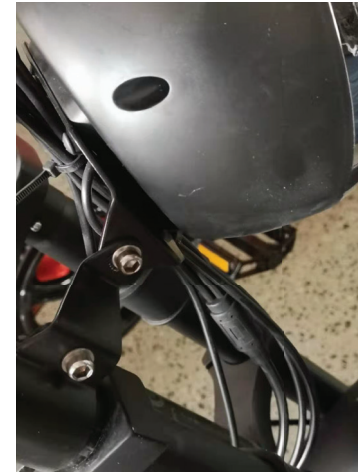

Fig. 6
Step 3: Seat Assembly (Refer to Fig. 6)